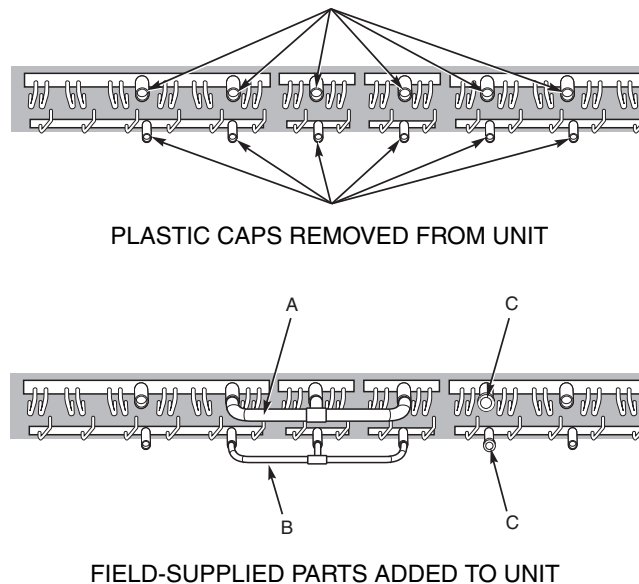

Fig. 14 — 09DK044 Unit with 66/34% Circuiting
1. Remove all plastic caps. Refer to Fig. 14.
2. Attach following parts as shown in Fig. 14. Perform phos-copper brazing on all field-made connections while protecting adjacent joints from heat.
- a. Construct the 66% gas tubing assembly (Item A), consisting of the following parts, and braze it into gas headers as shown in Fig. 14, Item A:
- b. Construct the 66% liquid tubing assembly (Item B), consisting of the following parts, and braze it into liquid headers as shown in Fig. 14, Item B:
- c. Plug the open 1 $\frac{1}{8}$ -in. diameter stub tube on the right gas header and the open $\frac{5}{8}$ -in. diameter stub tube on the right liquid header as shown in Fig. 14, Item C. Parts required: